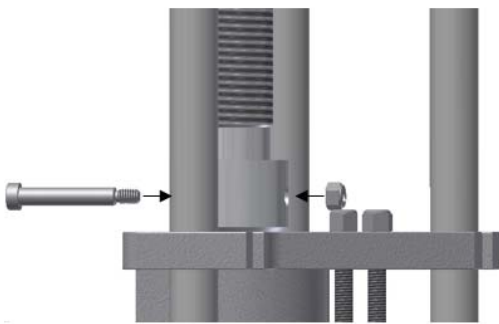

Figure 12
f. Line up 3/8" thru hole on bottom of feed screw with the 3/8" thru hole on the top motor restraint plate and place 3/8"x2" shoulder bolt through the lined-up holes. (See Figure 12).